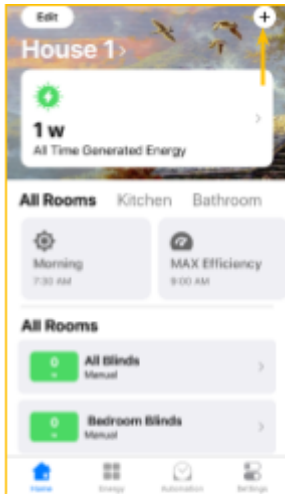

Figure 16
**10.5.1.** Click + in the top right corner to start (Fig. 16).